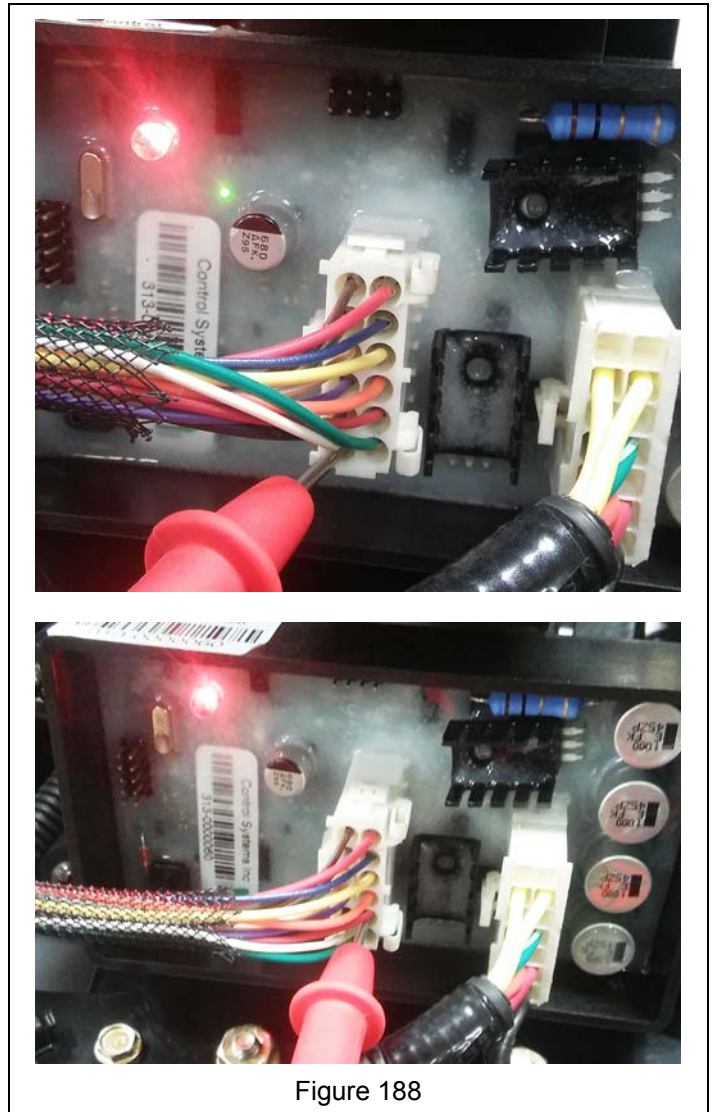

Figure 188
- c. If no voltage is present at the injector, check battery voltage by probing the red and white wires on the 12-pin ECU connector with the red probe and contact the black probe against the engine block. With the ignition key in the ON position, each terminal should measure 7.2 V DC – 8.4 V DC. See Figure 188.